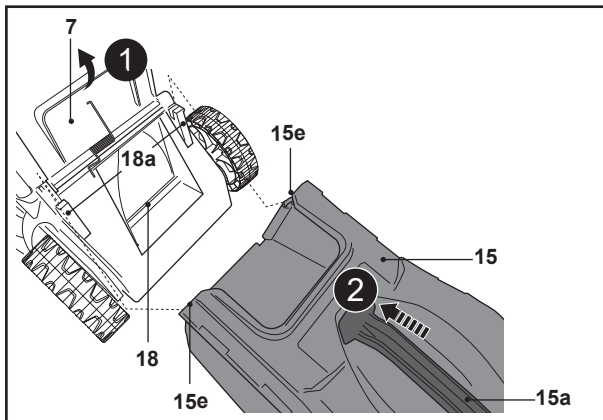

Fig. 5
4. Open the rear deflector guard (7) and hold it in position (Fig. 5, step 1).
5. Carry the grass catcher (15) by its carry handle (15a).
6. Align the two catcher hooks (15e) with the slots (18a) and hang the grass catcher (15) onto it (Fig. 5, step 2).
7. Carefully release the rear deflector guard (7) afterward.